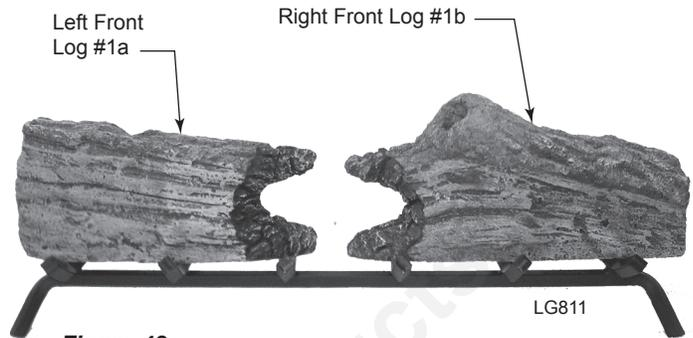

**Figure 41 -
9. Place front end of Top Left Log #8 on Log #7. Let back end of Log #8 rest on Log #6. *Figure 41*